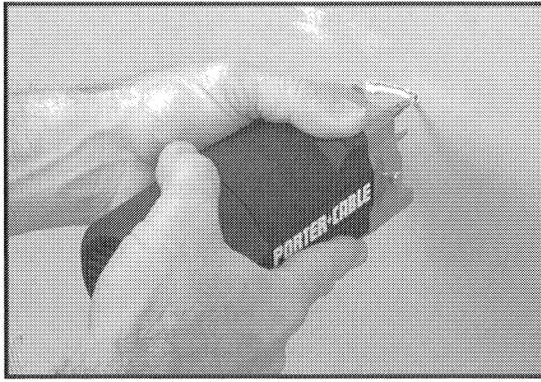

Fig. 5
2. **ALWAYS HOLD THE TOOL** by the motor housing **ONLY** (see Figs. 5 thru 9) to prevent accidental electrical shock resulting from cutting a live wire.
**WARNING:** Disconnect all electrical circuits within the area to be cut. Hold the drywall cut-out unit by the motor housing ONLY (see Figs. 5 thru 9) to prevent accidental electrical shock resulting from cutting a live wire.
5. Hold the Drywall Cutout Unit firmly with both hands and push the bit until the pilot is through the wall covering at the mark made in step 3 (see Fig. 5). Move the Drywall Cutout Unit to the right until you feel the bit contact the inside of the electrical box.